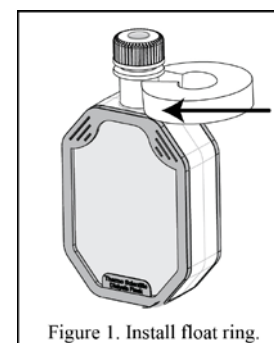

Figure 1. Install float ring.
4. Place the included float ring around the neck of the flask (Figure 1). Using the slit cut through the float, slide the float under the ring on the neck of the flask. Additional floats are available separately (Product No. 87759).